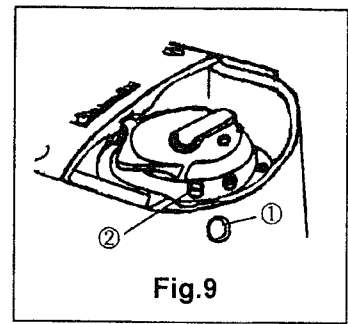

Fig.9
10. How to adjust the lower thread (Fig.9):